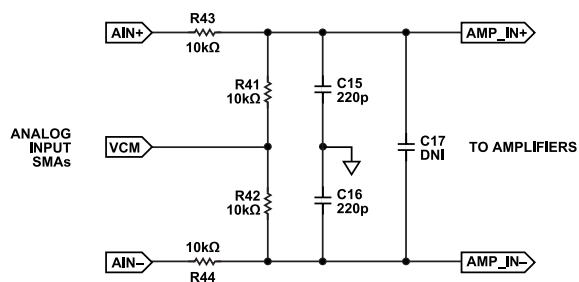

Figure 11. Signal and Common-Mode Inputs and Input Filter
- ▶ Passive filter network for signal generator noise and/or anti-aliasing filtering (see Figure 11)